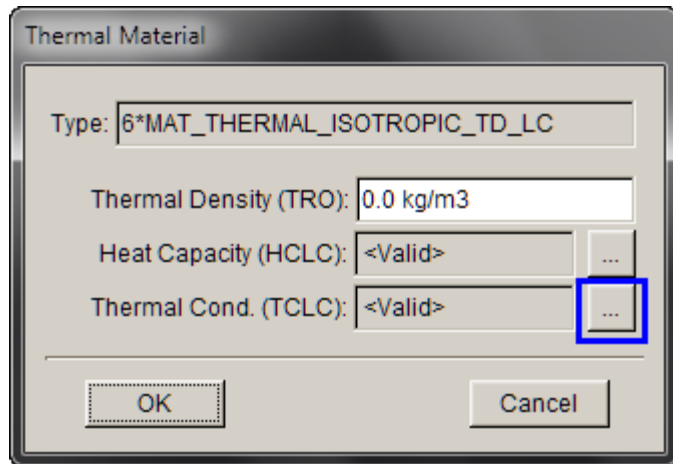

Figure 41
10. Repeat steps 4-9 to select **TCLC-conductivity-scaled.cur** as blank thermal conductivity curve. (Figure 41).